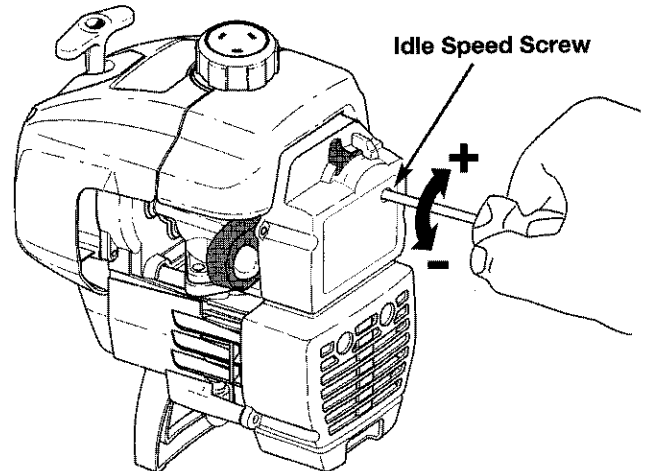

Fig. 34
The idle speed of the engine is adjustable through the Air filter/Muffler cover (Fig. 34).
2. Release the throttle trigger and let the engine idle. If the engine stops, insert a small phillips or flat blade screwdriver into the hole in the air filter/muffler cover (Fig. 34). Turn the idle speed screw in, **clockwise**, 1/8 of a turn at a time (as needed) until the engine idles smoothly.